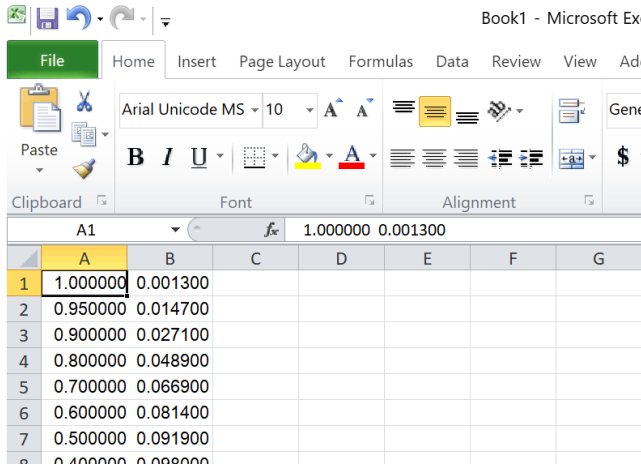

Fig. 3
Step 1. Open Excel and paste data into a new Excel file (Ctrl-V), Fig. 3.